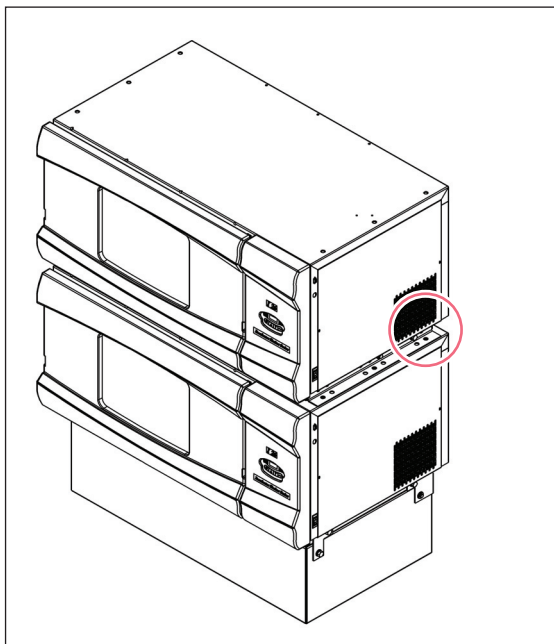

Fig. 4-10: Secure unit to stacking rails
4. Secure the bottom of the upper shaker the side stacking rails using the six  $\frac{1}{2}$ -13 x 1 in screws, lock washers, and washers provided (circled in red in Fig. 4-10). Also secure the upper unit to the stop rail using three  $\frac{1}{4}$ -20 x 5/8 in hex head screws, lock washers, and washers.